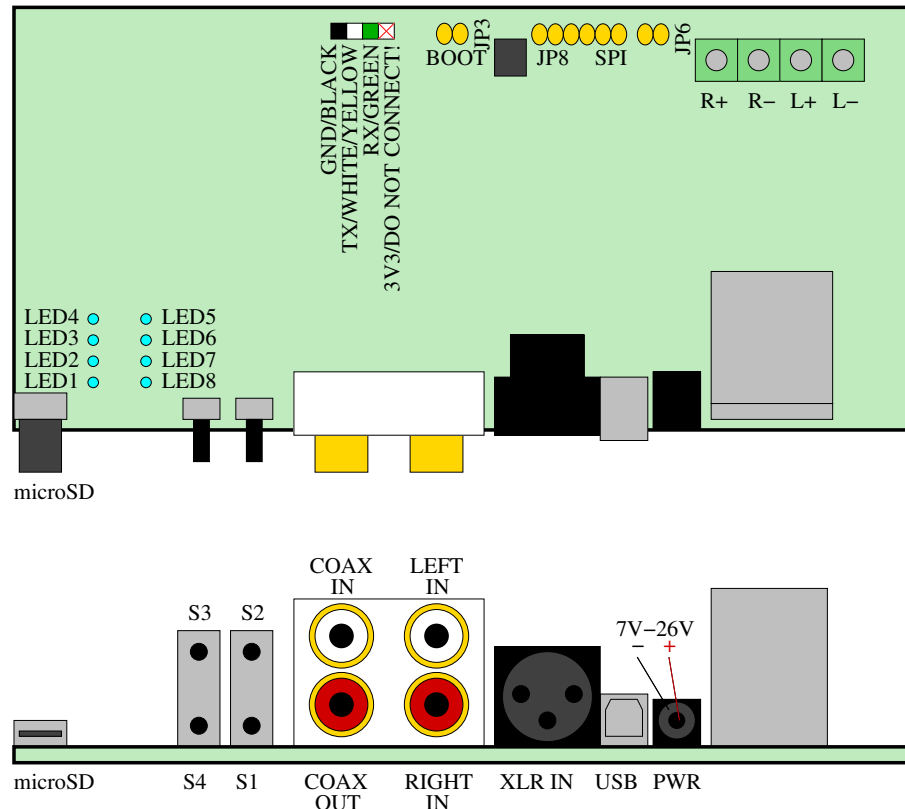

Figure 1: VS1005 Amp Board.
- The VS1005 Amp Board v1.0 or newer, as shown in Figure 1, is required.